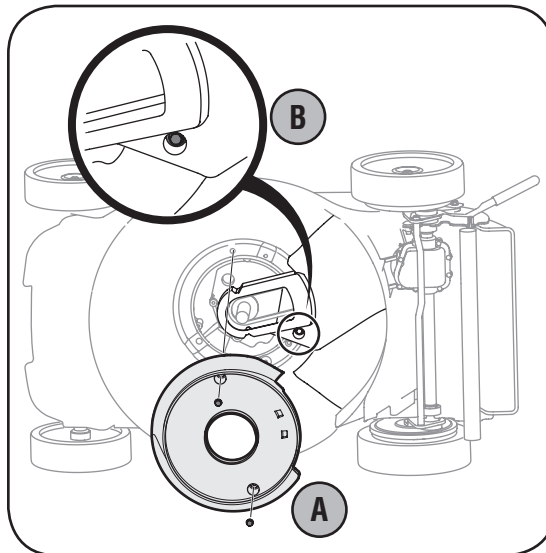

Figure 5-4: A. Remove the screws that hold the engine baffle onto the deck. B. Loosen the screw that holds deck baffle onto deck.
5. a. Remove the self-tapping screws that secures the engine baffle to the deck. See Figure 5-4. Remove engine baffle.
b. Loosen self-tapping screw that secures deck baffle to the deck. See Figure 5-4.